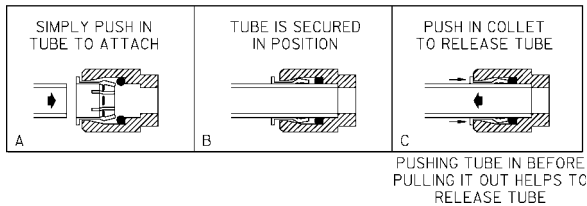

Figure 9 - Quick Connect Fittings
**Actuation of Quick Connect Water Fittings:** Cooler is provided with lead-free connectors which utilize an o-ring water seal. To remove tubing from the fitting, relieve water pressure, push in on the gray collar while pulling on the tubing. (See Figure 9) To insert tubing, push tube straight into fitting until it reaches a positive stop (approximately 3/4").